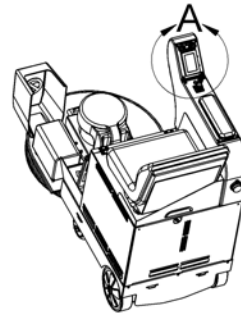

FIGURE 6
- The joystick (Fig. 6 - Detail A - Item 1) controls the direction and speed of the machine.
- The Horn Button (Fig. 6 - Detail A - Item 3) is located in front of the joystick. It is a momentary switch that activates the horn.
- The Master Key Switch (Fig. 6 - Detail A - Item 15) is located on the top left side of the control panel and it turns the machine on and off.
- The red E-Stop Switch (Fig. 6 - Detail A - Item 17) is located on the top right side of the control panel and it turns off all power to the machine in the event of an emergency. The electromagnetic braking system will immediately engage.